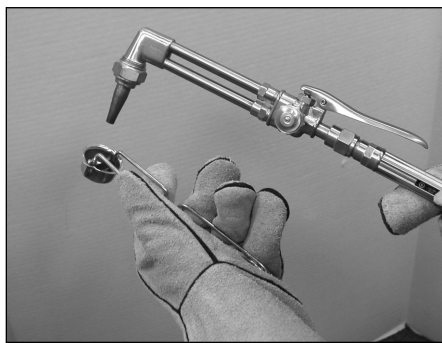

Figure 14 - Igniting fuel gas
1. Open torch fuel valve one quarter turn. Click spark lighter in front of torch tip to ignite the fuel gas. Point the flame away from persons, cylinders, or other flammable materials (see Figure 14).